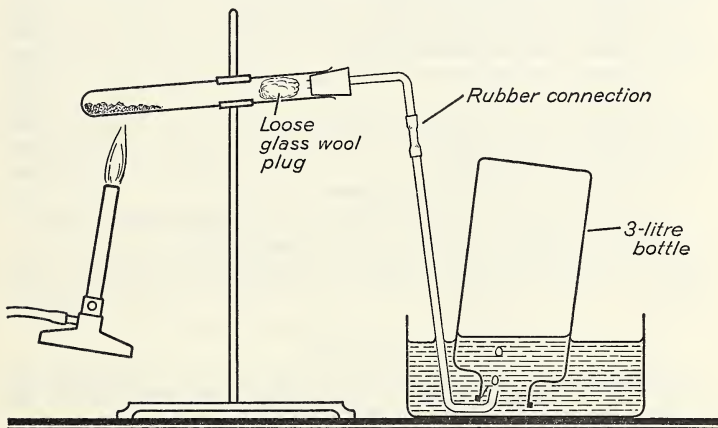

Fig. 53. Determining the gram-molecular weight of oxygen.
3. Arrange the apparatus as shown in Figure 53. A deep pneu-